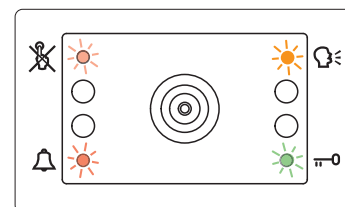

Fig. 7 Door panel in BOOT-LOADER mode
- The door panel will go into boot mode which is indicated by the four LED's flashing alternatively (**Fig. 7**).